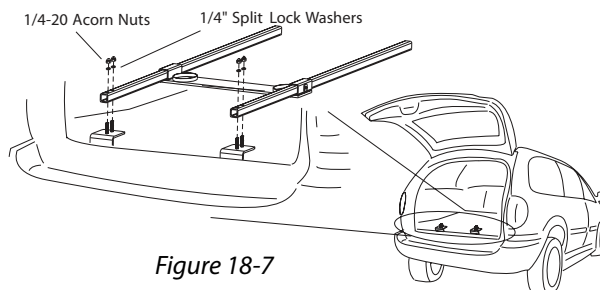

Figure 18-7
7. Attach rails to brackets. [Figure 18-7]